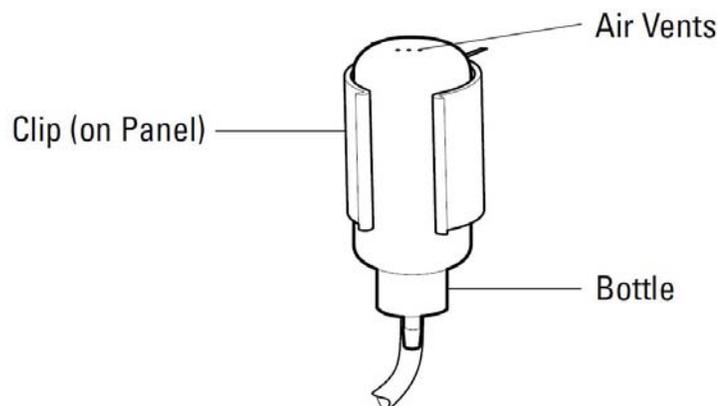

Figure 18: Reference Mounting Clip
8. Invert the electrolyte bottle and snap it into the clip. Refer to Figure 18. Use the pushpin supplied with the reference electrode to puncture three air vents on the bottom of the filling solution bottle.